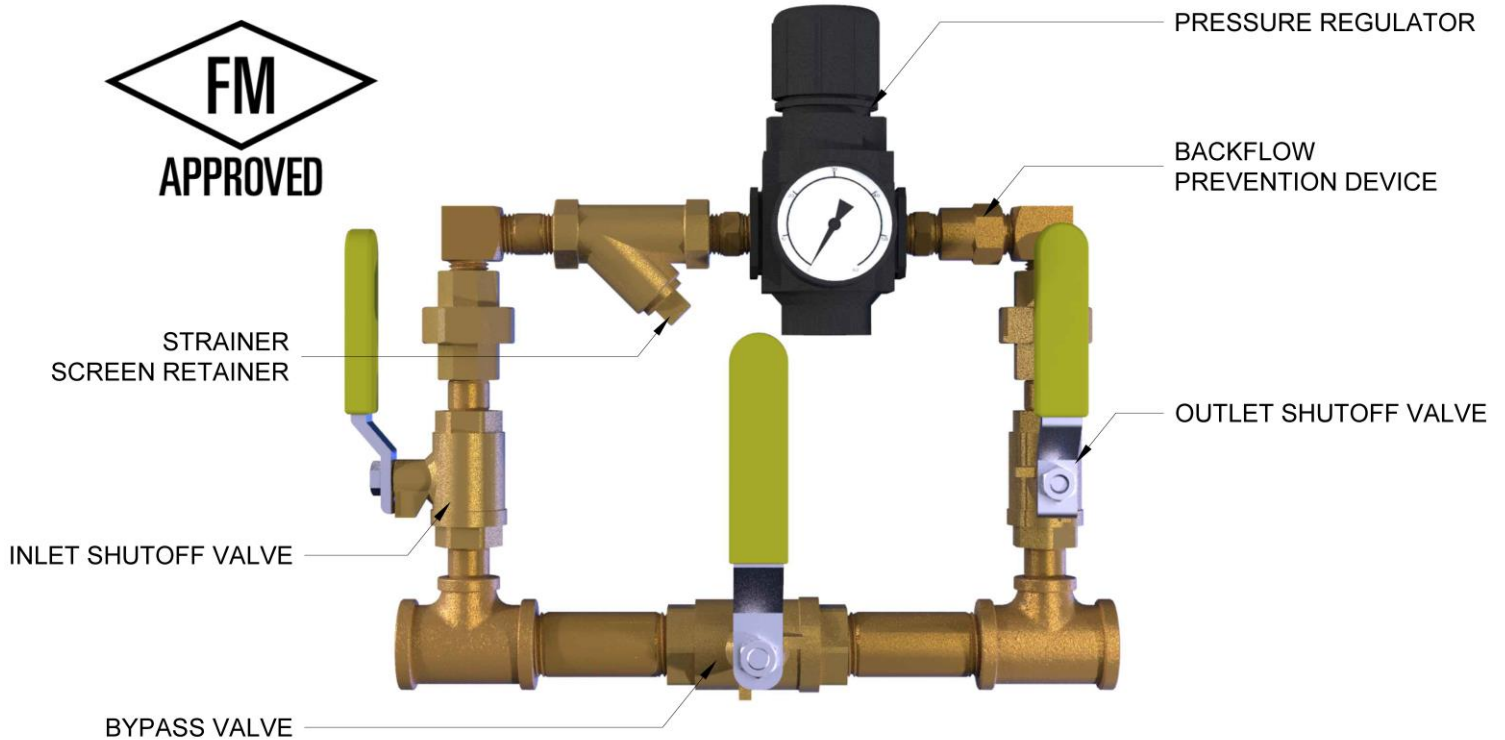

Figure 1
The **Model NAMD-1** device is designed to operate in one direction only. Refer to **Figure 1** to positively identify the **INLET** and **OUTLET** ports of the device.
- 4.2.3 Refer to **Figure 1**. Apply suitable wrench to HEX on strainer screen retainer. Do NOT remove square plug.